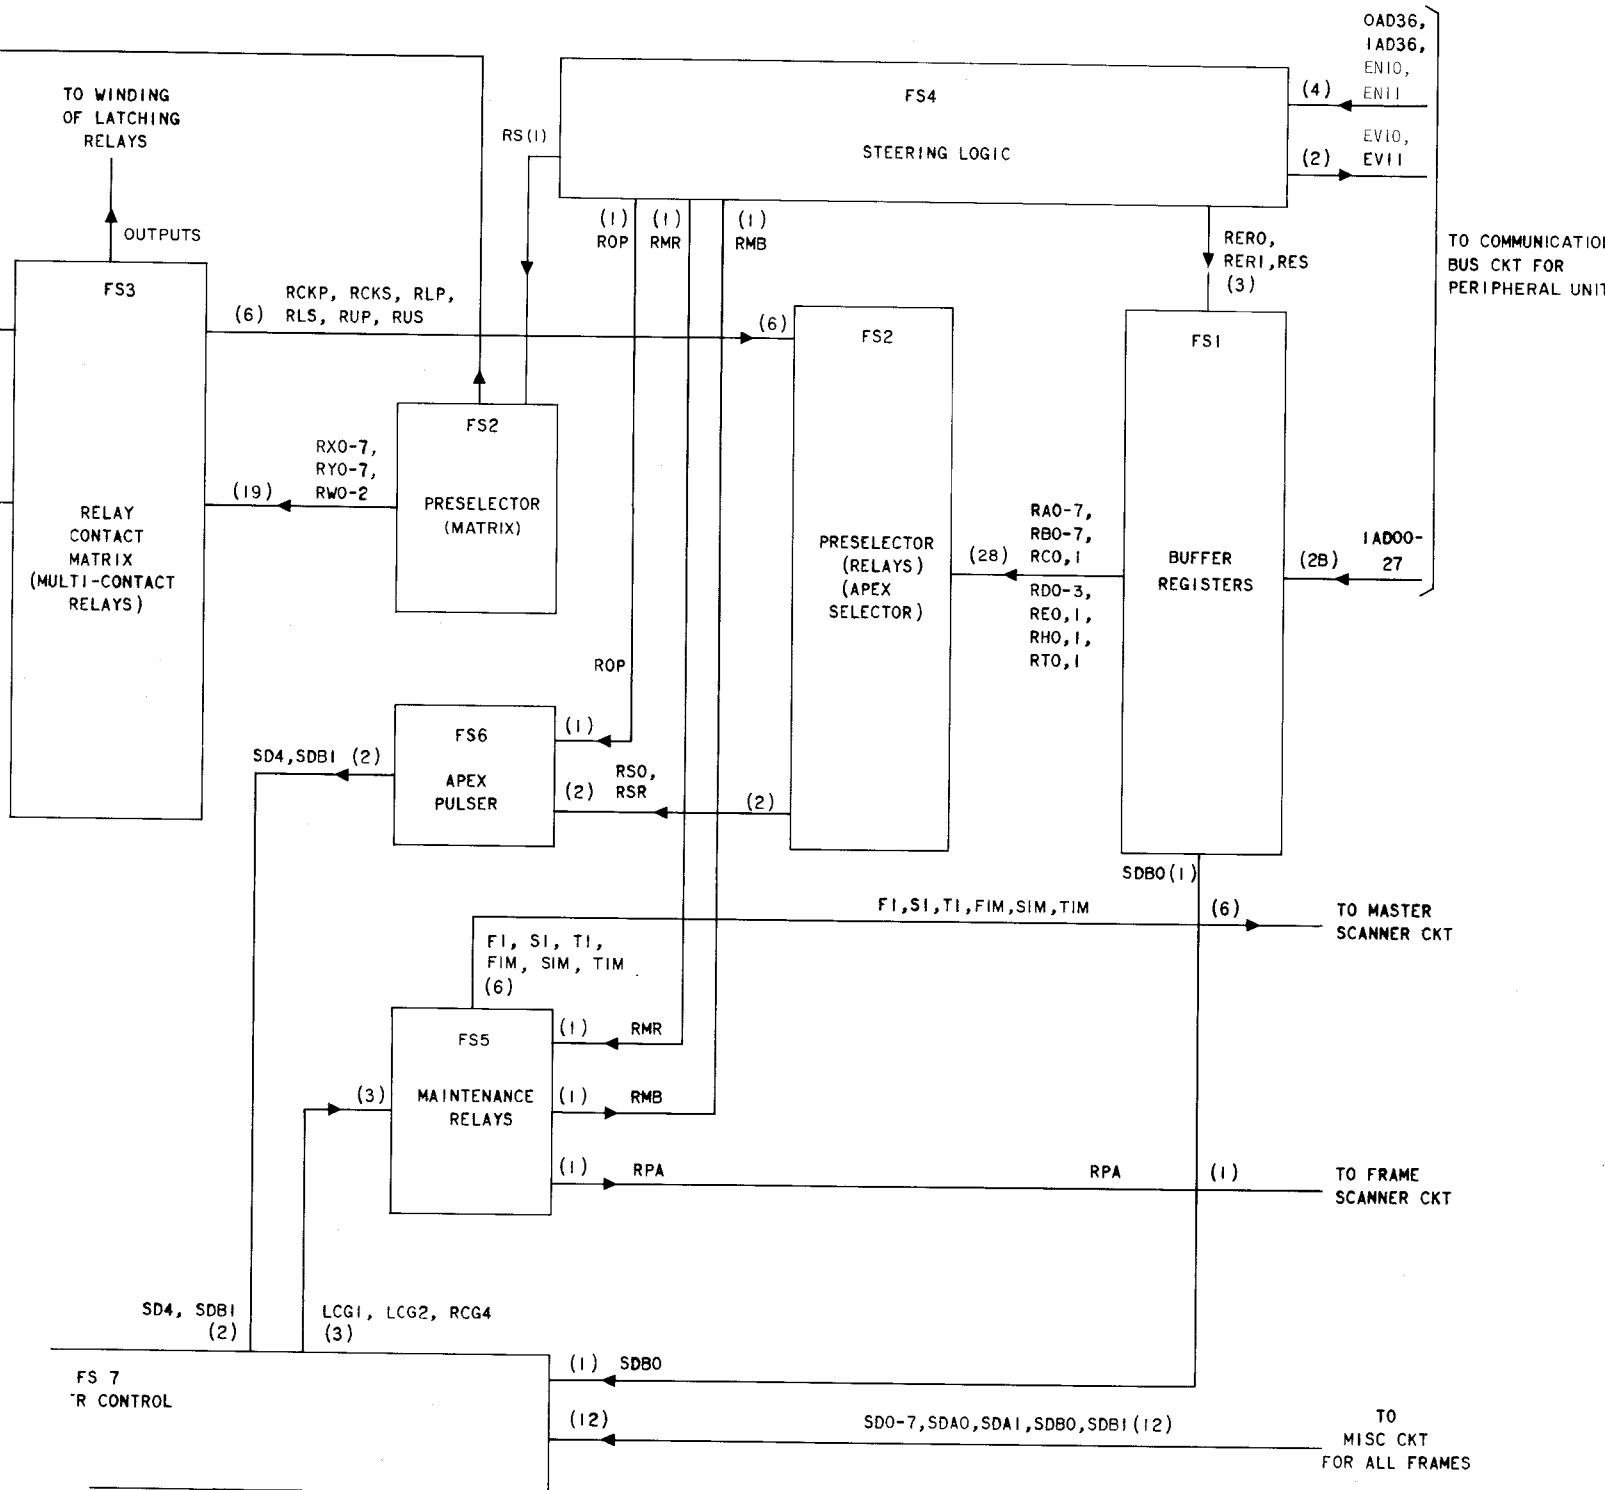

Fig. 4—Signal Distributor Block Diagram
5.06 Each controller can be enabled by either of two CPD signals. For a given controller, each enable originates from a different CPD and allows the controller to receive orders from either PU address bus (Fig. 4).
5.08 The F, S, and T points are connected over private pairs to a master scanner. These points reflect the state of the controller, and also the source of the controller reset (Fig. 4).